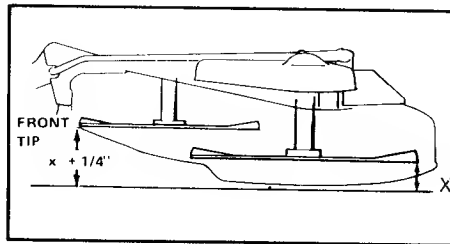

Figure 38. Levelling Mower
4. Measure the distance from the front tip of the center blade to the ground, and note that measurement. (See figure 38).
5. Measure the distance to the ground from the rear tips of the left and right blades. Compare these measurements with the measurement from the front tip of the center blade. The front tip of the center blade should be 1/4 inch (6 mm) higher than the rear tips of the side blades (figure 38).